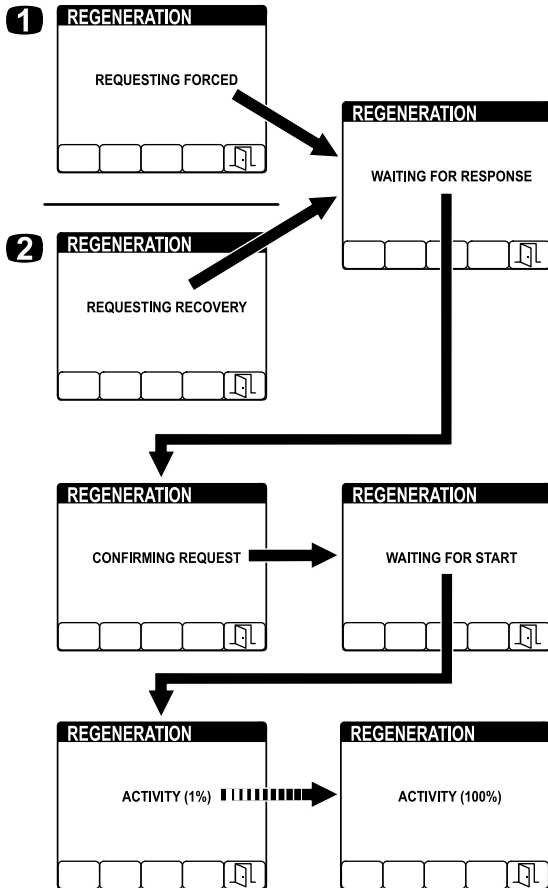

Figure 52
4. The InfoCenter displays a series of screens (Figure 52) as the regeneration processes: